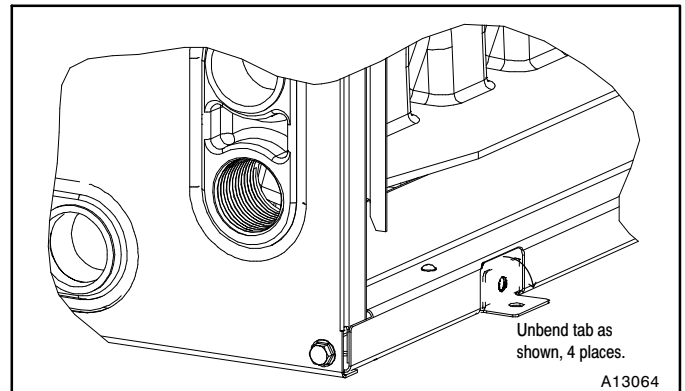

Figure 8 – Horizontal Left Installation
1. Unbend the 4 tabs at the right side of the casing. (See **Figure 8**)